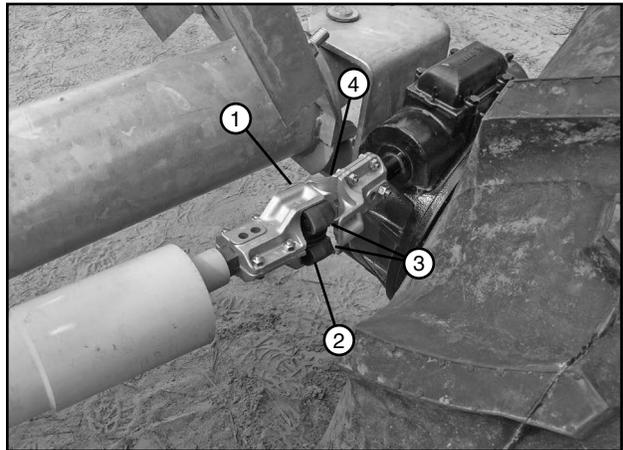

Figure 38-2 1. Drive Shaft U-Joint Half
6. Push the tire toward the operating position while aligning the drive shaft U-joint half and flex joint chamfered corners with the wheel gearbox U-joint half. See Figure 38-2.
Continue pushing the tire toward the operating position with enough force to push the gearbox U-joint half over the flex joint and latch the steering arm in the latch plate. See Figure 38-2.